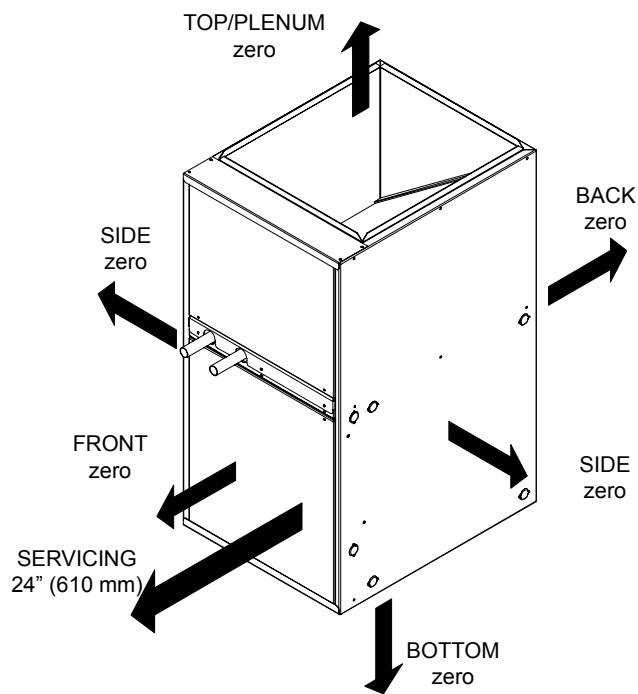

Figure 2: Minimum Clearance to Combustible Construction
7. The installer shall provide ample space for servicing and cleaning. Always comply with minimum fire protection clearances shown in Figure 2.